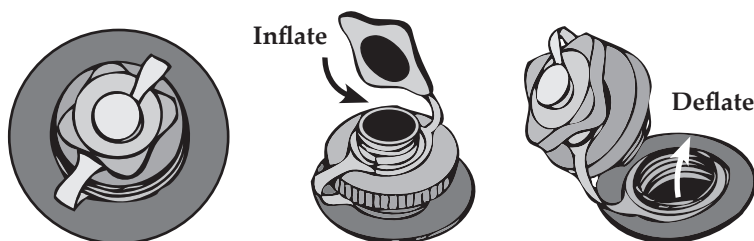

Figure 2. Inflate/Deflate Boston Valve
3. Locate chamber 3 “floor.” Make sure valve body is screwed in tightly. Remove small cap (*See Figure 2*) and use appropriate pump nozzle. Inflate chambers until firm (1.0 psi **ONLY**). **Do not over inflate!**
3. Unscrew valve body to chamber 3 and 4 (*See Figure 2*).